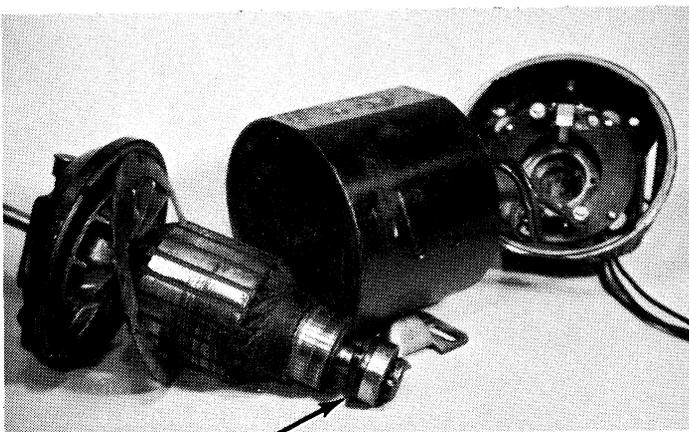

Figure 1-22. Typical DC Generator
At one time generators were used in almost all IBM machines to generate the 40 volts dc needed for machine operation. Selenium and other types of rectifiers have replaced generators in most machines. However, machines are in the field which still use generators. Figure 1-22 illustrates a typical dc generator.
4. Remove the rear end bell. Ball bearing types may have screws holding a bearing retaining plate. Remove these screws (Figure 1-22). The end bell may have to be pried off.